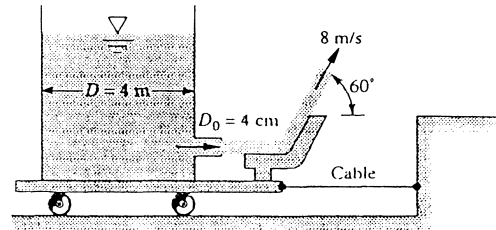

Fig. P3.58
3.58 The water tank in Fig. P3.58 stands on a frictionless cart and feeds a jet of diameter 4 cm and velocity 8 m/s, which is deflected 60° by a vane. Compute the tension in the supporting cable.